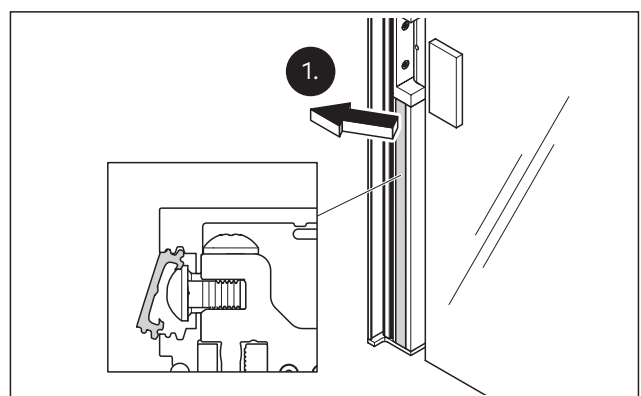

Fig. 8 Disassemble the seal of the door frame's cover profile
1. Disassemble the seal of the door frame's lower cover profile under the door hinge (Fig. 8).